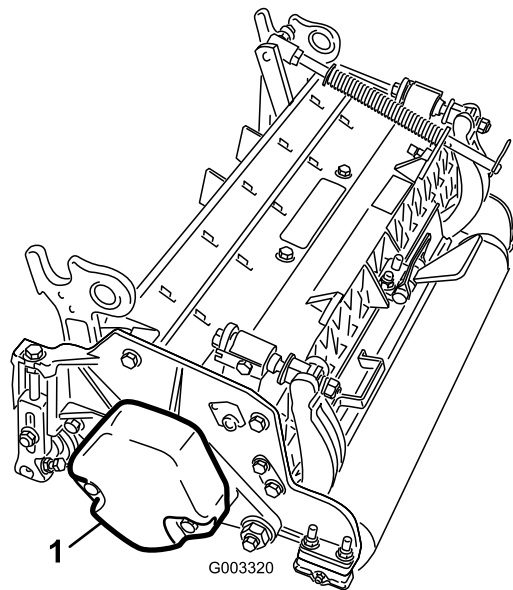

Figure 9
4. Make sure the counter weight (Figure 9) is installed to the proper end of the cutting unit as described in the cutting unit *Operator's Manual*.